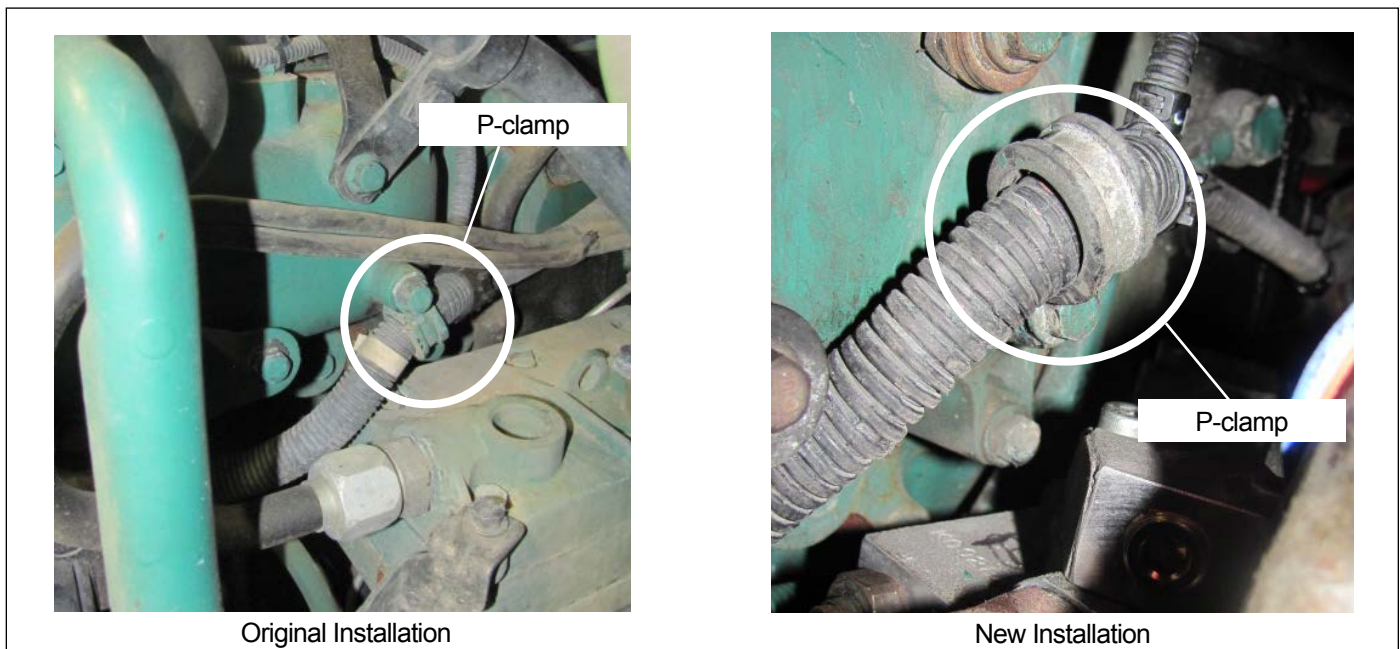

Figure 3 – P-Clamp Positioning
- Once the existing WABCO® compressor has been removed, the P-clamp and line that the P-clamp holds must be repositioned to ensure proper clearance when the new Bendix® SNA-01™ compressor is installed. Refer to Figure 3 to determine the P-clamp that must be adjusted. Loosen and remove the bolt that holds the P-clamp. Invert the P-clamp and position it such that the P-clamp is located above the bolt hole. Install and retighten the bolt that holds the P-clamp.